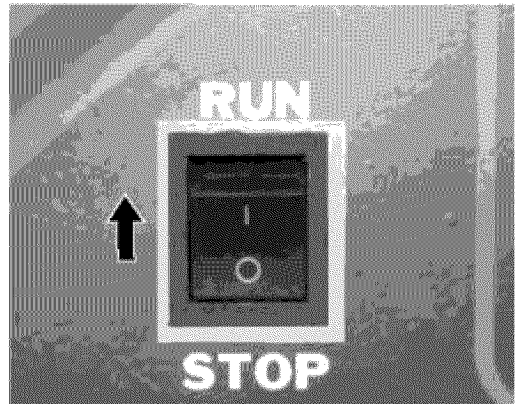

Figure 24 – Engine Control Switch
4. Push the engine control switch into the **RUN** position (see Figure 24).